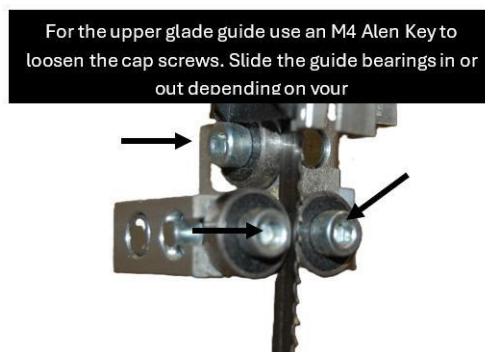

Figure 8: Adjusting the upper blade guide.
- 4- Use the adjustment knob to move the blade see figure 8.
To adjust the upper blade guide, see figure 8.
8- Adjust the Blade Guides readjust the blade guides, making sure that they are supporting the blade. See figures 8 and 10.